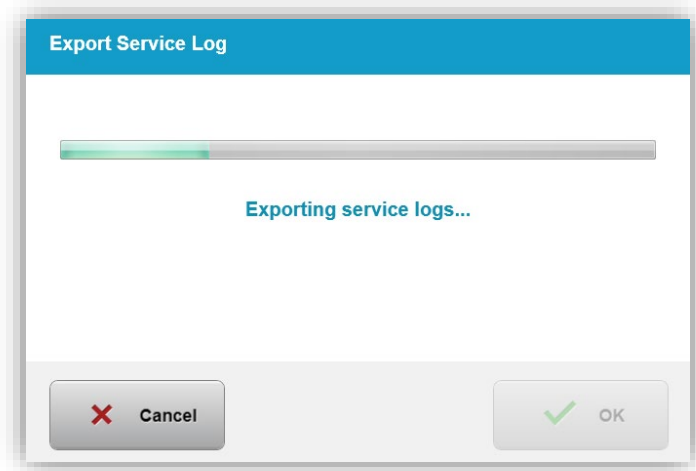

Figure 3-57. Export Service Log in Progress
- The system automatically begins transferring the service log and shows a progress bar of the transfer process as shown in Figure 3-57.